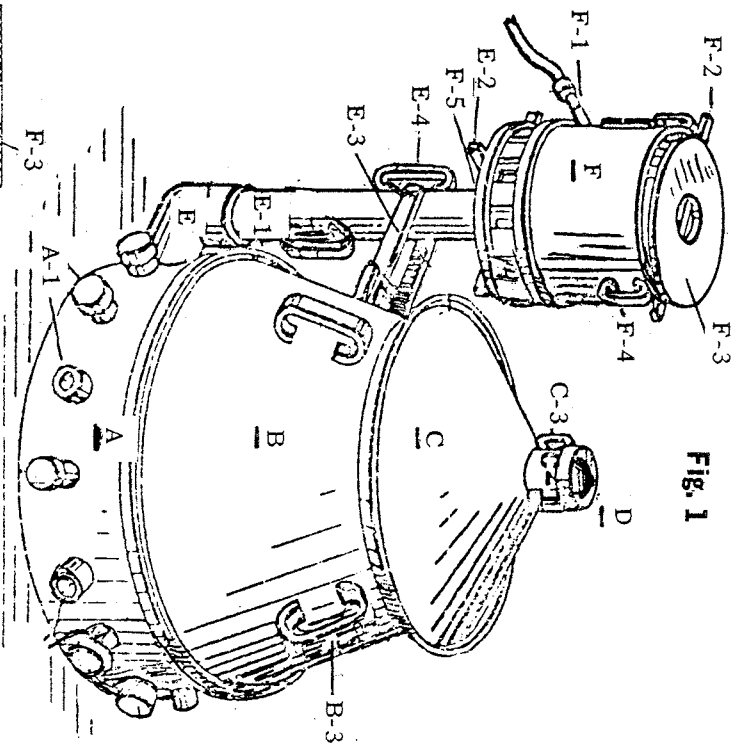
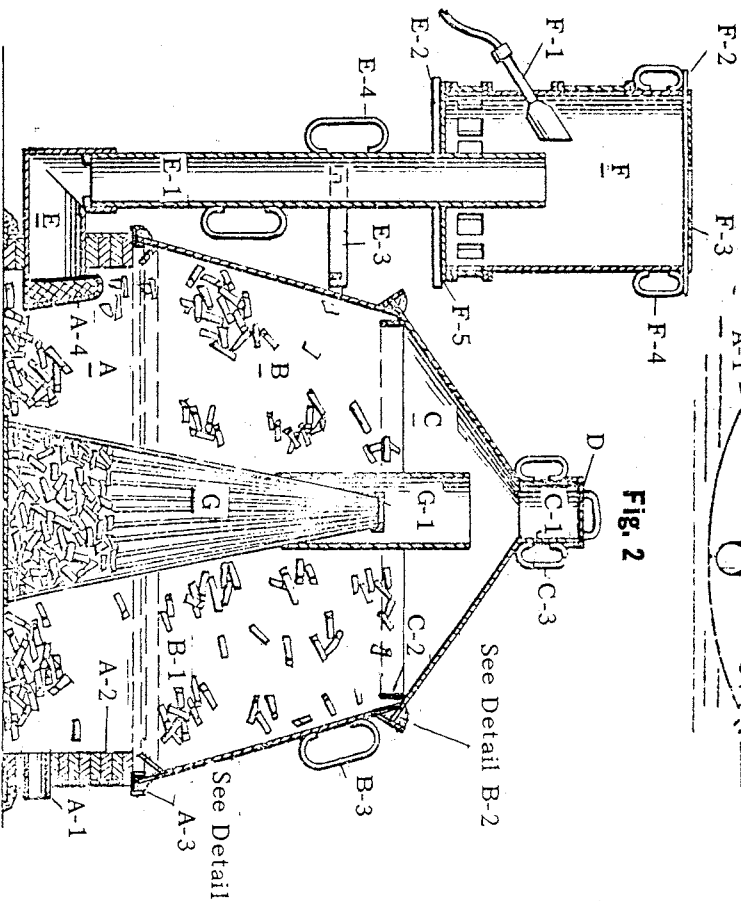

Fig. 1
Fig. 2
I redesigned my kiln again recently, adding some improvements which were not shown in the drawings on Figure 1 and Figure 2. Consequently, I made a drawing of my own which illustrates the added improvements in my kiln "Shut-off and Exhaust System." Please refer to Figure 3 and the details of this system under the symbol "H."
I wish to point out that the symbols and descriptions of the various parts illustrated on Figure 1 and Figure 2 also apply to like components illustrated on Figure 3.
**FIGURE 1**—Is a perspective view of the kiln showing its principal external features as well as the exhaust system utilized during the normal charcoal making period.
**FIGURE 2**—Is a vertical sectional view illustrating the smoke outlet utilized during the normal charcoal making period. It also illustrates other internal and external design features not shown in Fig. 1.
The **Exhaust Stack "E-1"** (Fig. 1 and Fig. 2) seats into the exhaust pipe "E" allowing for the passage of moisture and gaseous materials during the cooking cycle.
**Two pieces** (only one piece shown in Fig. 1) of 1/8" x 1" flat bar approx. 2-1/2' long "F-2" are laid across the open top of the combustion chamber "F." These bars support another circular 1/8" sheet metal plate with an 8" hole cut in its center "F-3." This cover for the combustion chamber "F" is slidable in any direction and retards the gases and smoke coming out of the stack "E-1" long enough to mix with the oxygen allowed into the chamber. The ignition torch "F-1" lights this combustible mixture which is substantially burned so as not to create an excessive air pollution problem.
The **Double Brackets "E-3"** (Fig. 1 and Fig. 2) are removable. They are used to hold the exhaust system steady. It is preferable, however, to attach the exhaust system to a nearby pipe or pole (as I now do with my latest model kiln illustrated in Fig. 3), otherwise the exhaust system must be disassembled in order to move middle section "B."
Another **Cap** (not shown in the drawings) similar to Cap "D" is used to cover the smoke stack "E-1" at the end of the cooking cycle to seal the stack and kiln when using the earlier model kiln illustrated in Fig. 1 and Fig. 2.
You have various choices. You may want to rig up a combustion chamber system similar to that which is shown used in the drawings Fig. 2-"F," or you may wish to use this simple method as I do: